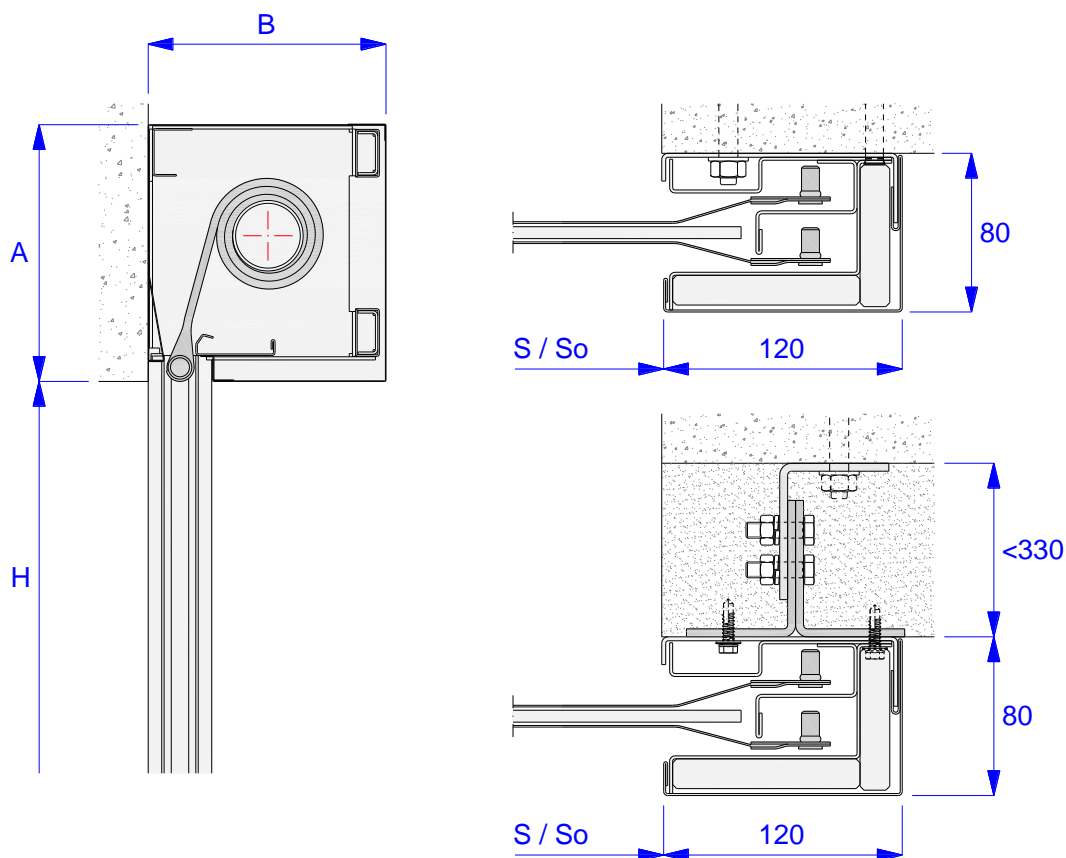

Fig. 3 - ISOiK-Ok60-01.03 MARC-Ok EI60 / EI60-S fire protection curtain door – wall-mounted
1) – See Figures 3, 4
1), 2) – As shown in Figures 3, 4